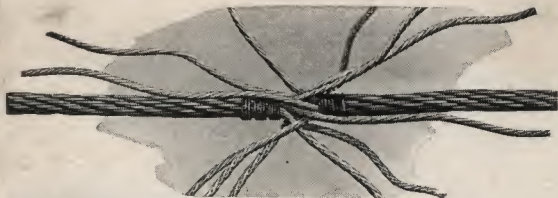

Fig. 3. The strands are now interlocked in a finger lock position.
1. Interlock the six inlaid strands of each end in a finger lock position as shown in diagrammatical cut, Fig. 3.